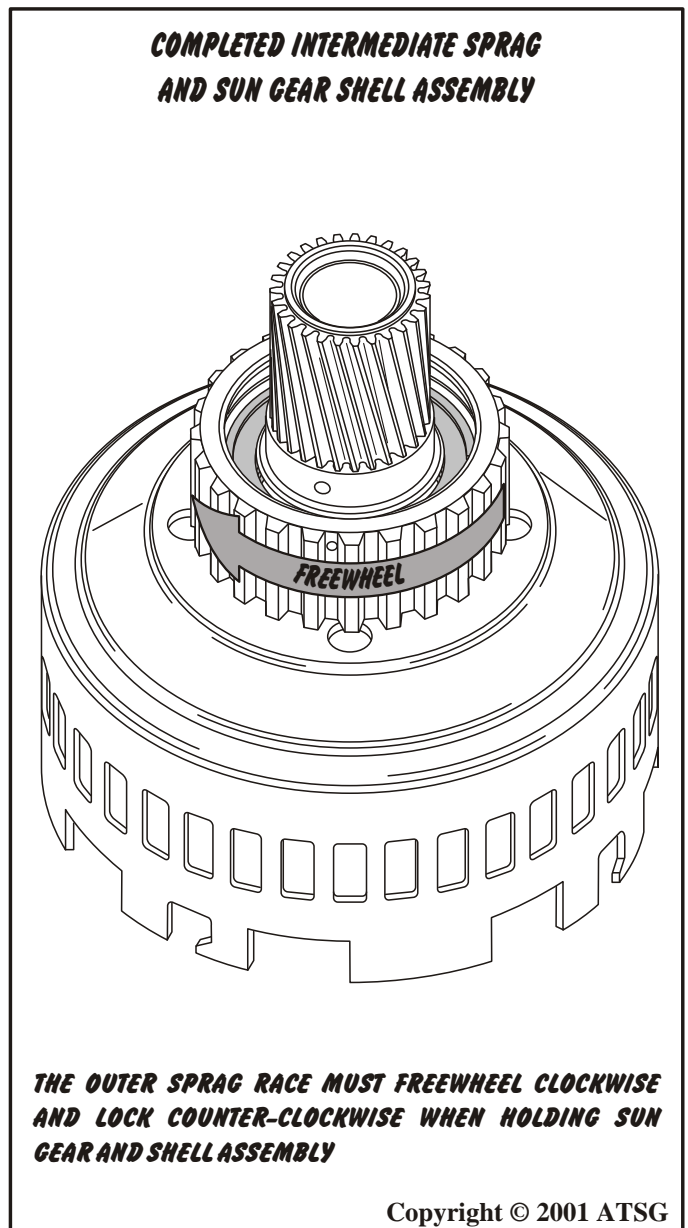

Figure 111
12. Intermediate sprag outer race *must* freewheel in clockwise direction and lock counter-clockwise as shown in Figure 111.